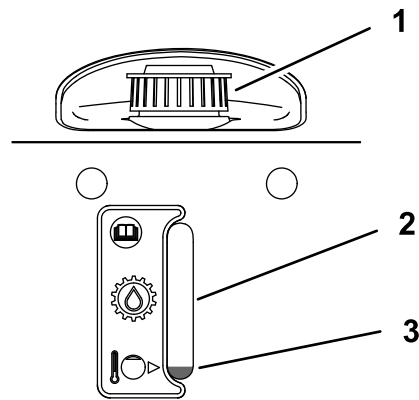

Figure 44
4. Use the sight window to check the fluid level in the expansion tank (Figure 44).
13. Add hydraulic fluid to the expansion tank until it reaches the fluid line (Figure 44).